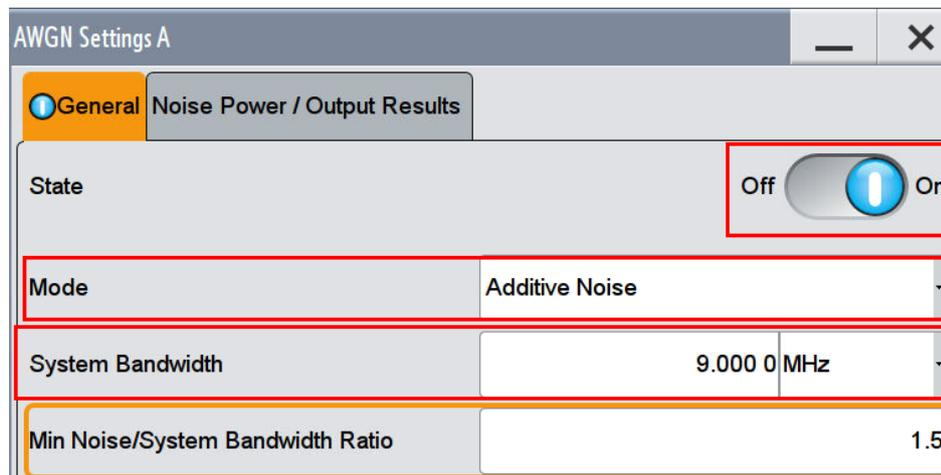

Fig. 3-19: General AWGN settings. The system bandwidth depends on the LTE channel bandwidth.
2. Switch the state **ON** and set the **Mode** to **Additive Noise**.(Fig. 3-19, Fig. 3-20)
3. Set the **System Bandwidth** according to Table 3-3 (e.g. $BW_{\text{channel}} = 10 \text{ MHz} \rightarrow BW_{\text{system}} = 9 \text{ MHz}$) (Fig. 3-19).
4. Set the **Ratio** to **1.5** (Fig. 3-19).